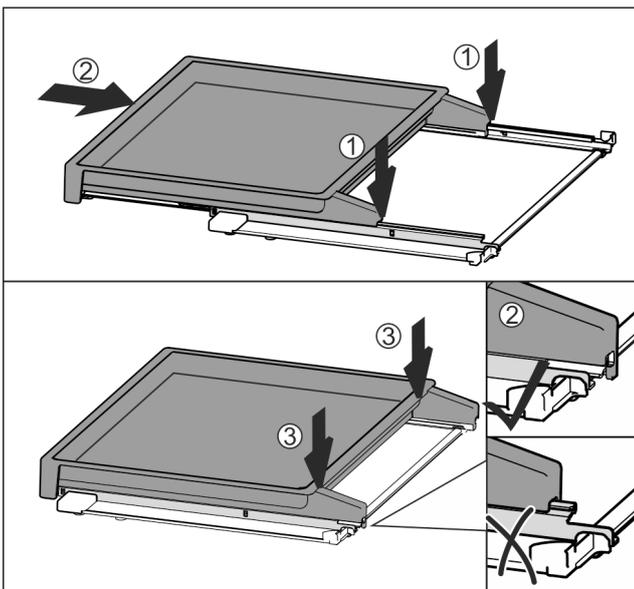

Fig. 33
- ▶ Place centrally on the rails Fig. 33 (1).
- ▶ Slide the pull-out board all the way in Fig. 33 (2).
- ▶ Press down at the back until it clicks into place Fig. 33 (3).